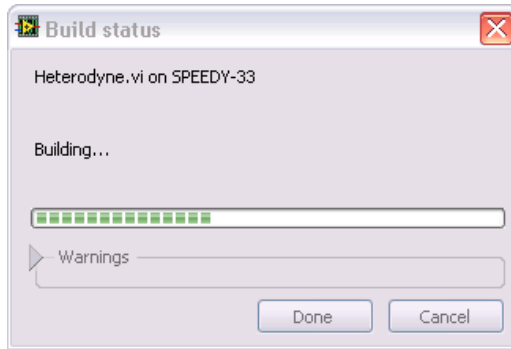

Figure 6. Building the DSP VI into a DSP Application
3. Click the **Run** button, shown at left, to build, download, and run the DSP application on the SPEEDY-33 target. When you click the **Run** button, the **Build Status** dialog box, shown in Figure 6, appears and displays the progress of the building and downloading of the DSP application on the SPEEDY-33 target.